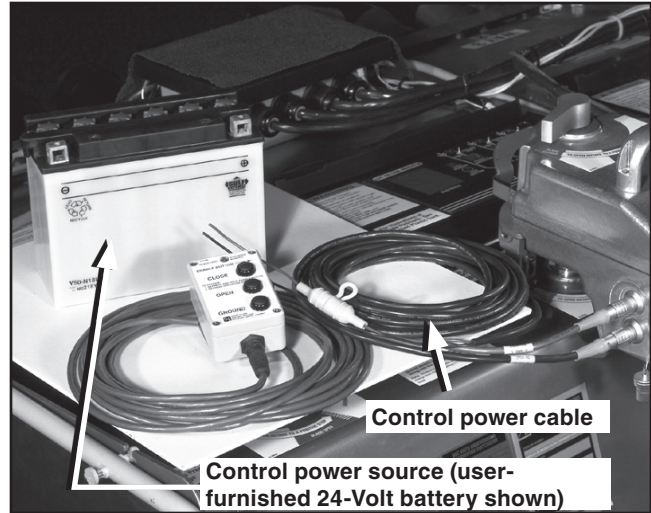

Figure 7. Connecting the control power cable to user-furnished 24-Volt battery.
**STEP 6.** Connect the control power cable to the portable motor operator and to the control power source. See Figures 7 through 9.